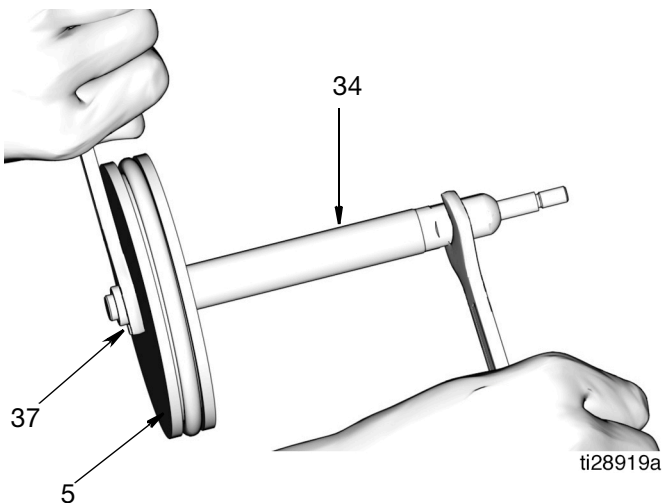

FIG. 23
23. Separate the piston rod (34) and the piston (5) using two wrenches, working in opposite directions. Secure one wrench to flats of piston rod and the second wrench to loosen the nut (37) (FIG. 23).